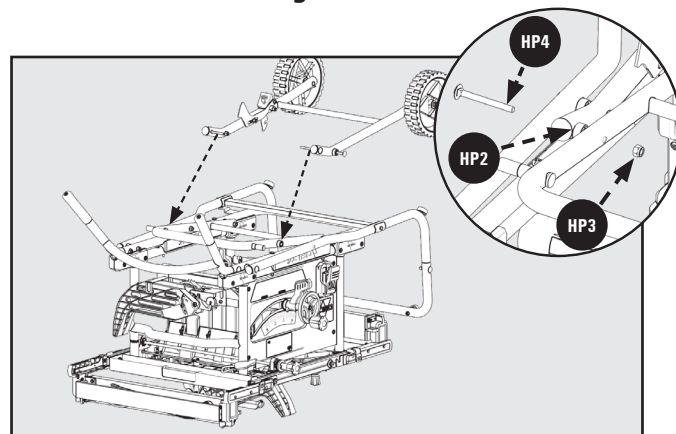

Figure 8
7. Install the Wheel Assembly (assembled in Step 1) to Upper Stand Assembly (assembled in Step 4). Insert M8 Plastic Spacer (HP2) between Legs and secure with M8 x 75mm Carriage Screw (HP4) and M8 Locknut (HP3). Secure using the 13mm Combination Wrench. See Figure 8.